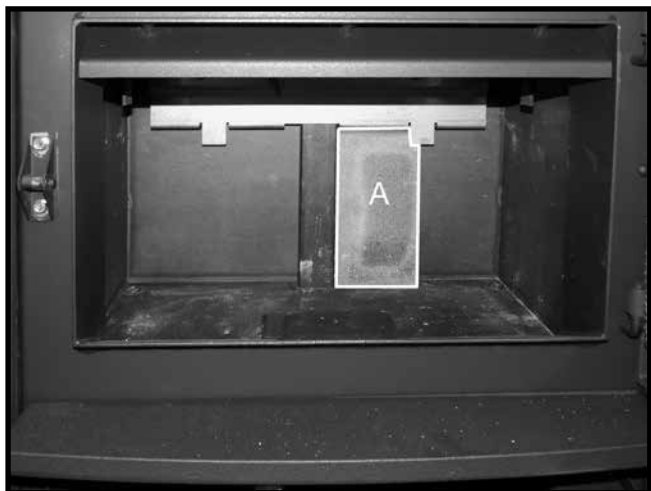

Figure 22: Installing the 1st of the rear wall firebricks.
1. Stand one "A" firebrick vertically behind the tab located on the brick rail. Slide the firebrick toward the center of the rear wall (Figure 22).